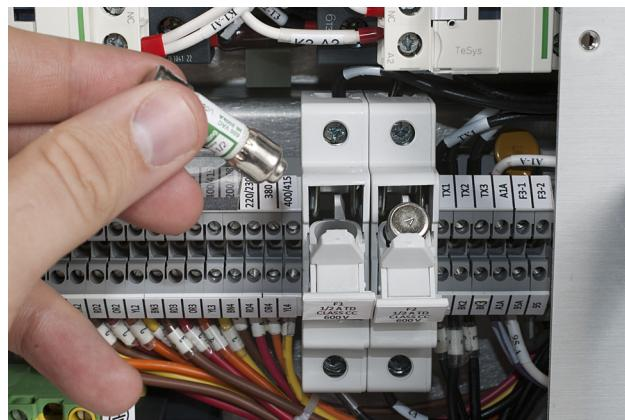

FIGURE 6-5 Fuse drawer
5. Locate the two fuse holder assemblies as shown in FIGURE 6-2 and in FIGURE 6-5.
7. Check the fuse for continuity. Replace fuse(s) if necessary. Fuses should be replaced in pairs. Fuses are inserted small-end first as shown (FIGURE 6-5).